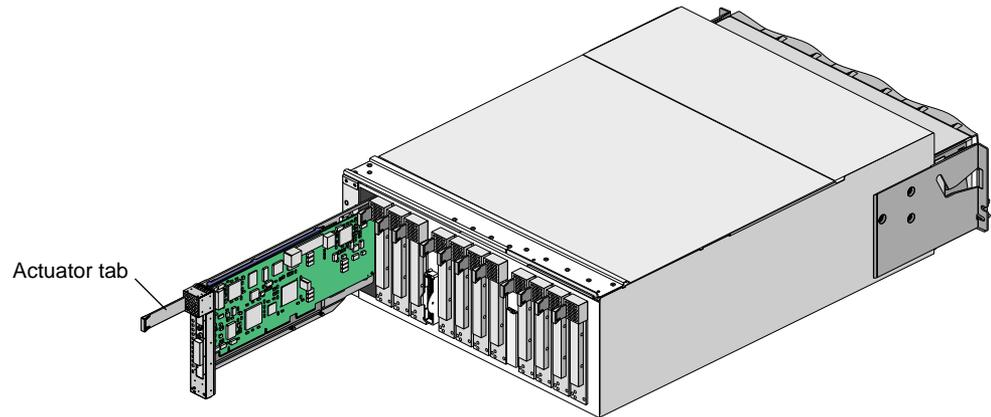

Figure 2-5 Installing a PCI Card in a PCI Slot
5. Insert the PCI card and carrier into the vacant slot, using the slot guides, as shown in Figure 2-5. Then slide the carrier into the module by grasping the PCI card carrier by its edges and sliding it into the module.